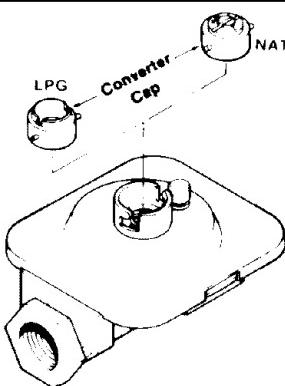

FIGURE 6
1. Remove the cap, push down and turn counter-clockwise. Turn the cap over and reinstall (figure 6).
- a. Change the appliance pressure regulator from natural to LP setting. (See figure 6, 7 or 8).
- a. Change the appliance pressure regulator from LP to natural setting. (See figure 6, 7 or 8).